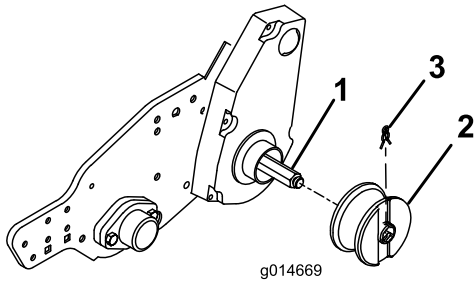

Figure 10
3. Insert a wheel onto each shaft and secure with a wheel clip (Figure 10).